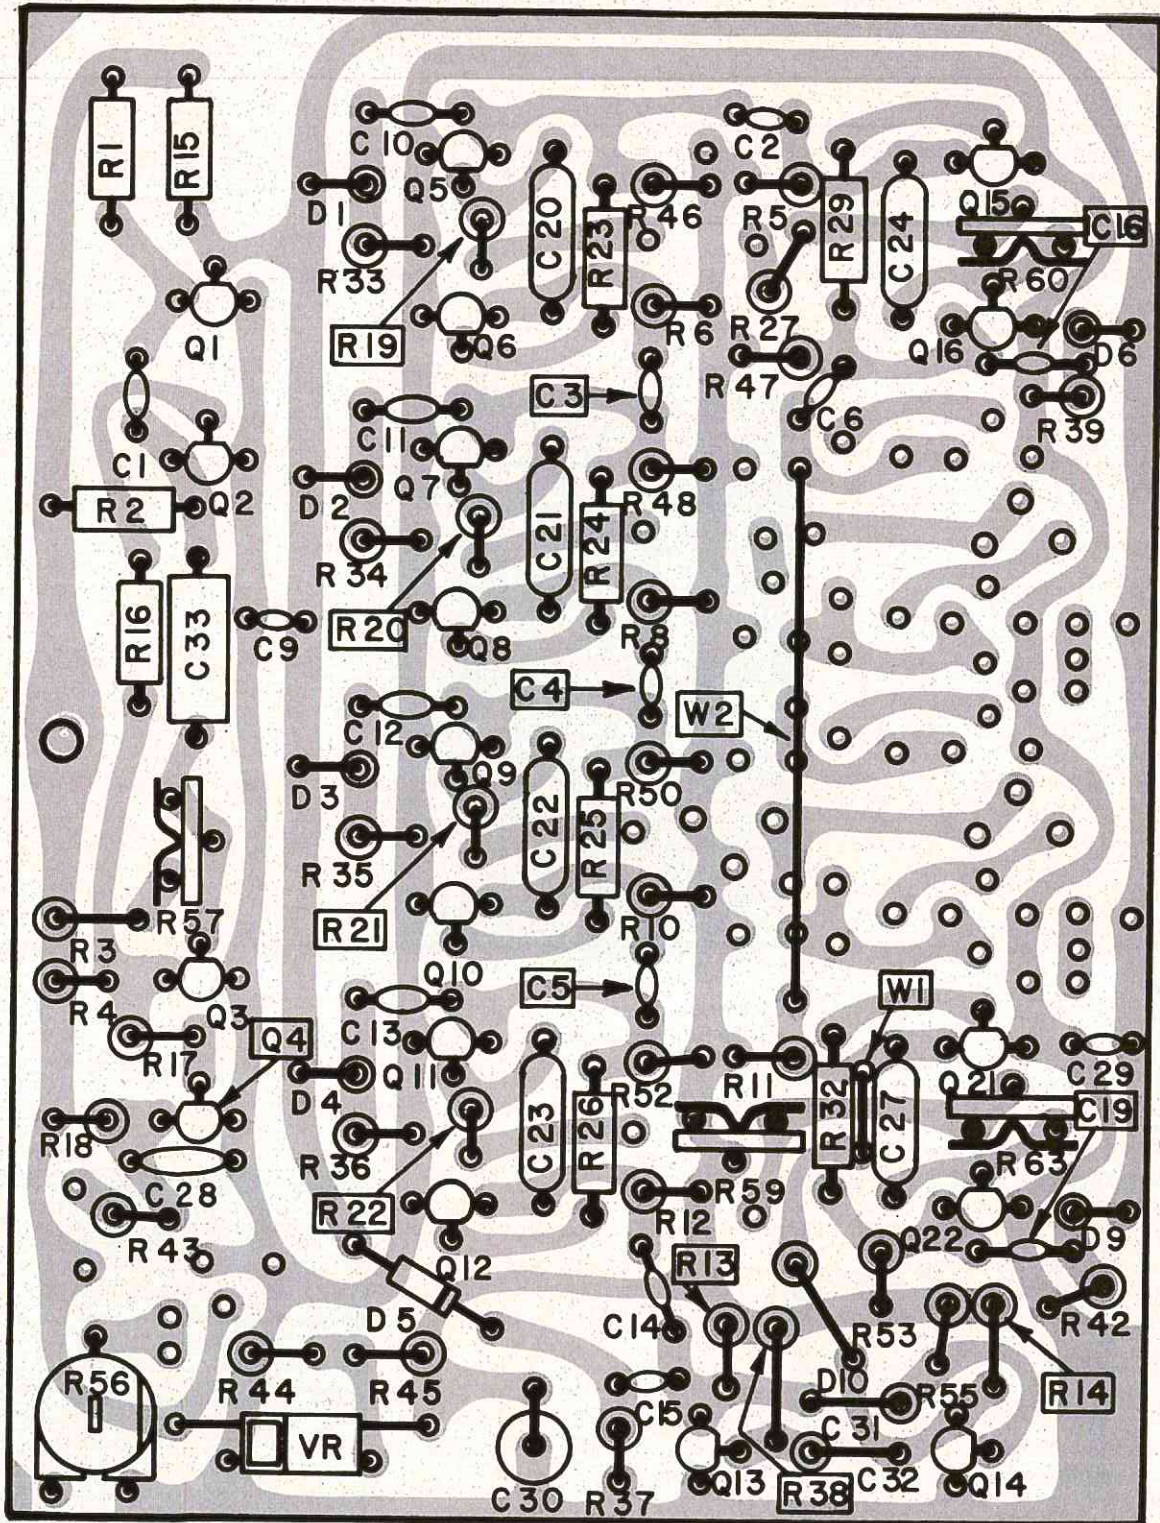

FIGURE T-1
Figure T-1 and Figure T-2 illustrate the location of each component as viewed from the component sides. Figure T-3 illustrates the position of the two terminals to be soldered to the foil side of the r.f. board. To identify the components three conventions have been used.
(1) When the component, as drawn, is large enough, its symbol is printed on the outline which represents it. See, for example, the two resistors R1 and R15 in the upper left corner of Figure T-1.
(2) When the identifying symbol of a component will not fit on its outline, the symbol is placed **below** the outline. See, for example, transistor Q1 near the upper left corner of Figure T-1.
(3) When the component cannot be identified by either of the first two conventions, its symbol is printed inside a rectangle. An arrow points from the rectangle to the outline of that component.
STEP 1. Find the symbol representing the component to be identified from Figure T-1 or Figure T-2; for example, R1 on Figure T-1.
Figure T-1 shows the location of the components on this board. Begin by installing resistor R1 in the left rear corner of the board. Next, install one of the components adjacent to R1. Continue adding components, one by one, working outward and away from those already installed. Use the installed components as guides to help locate the correct position of the next component.
No bending of the leads should be required. The holes have been located in the board to fit the leads properly. Position the trim pot as shown in Figure T-1 and insert the leads into the proper holes.
These transistors have a somewhat different mounting from the transistor mounting on the r.f. board. The difference consists in the positioning of the base lead. Bend the two outer leads slightly apart. Bend the center lead slightly towards the flat face. Insert the leads into the proper holes in the board and push the transistor down to within 1/8" of the board. The flat face must be positioned as shown in Figure T-1.
Make a smooth 90° bend in each lead to fit the holes in the board. Position the diode so that the black stripe has its proper orientation as shown in Figure T-1. Insert the leads into the holes and push the diode down against the board.
No bending of leads should be required. The holes have been located in the board to fit the leads properly. Position the voltage regulator as shown in Figure T-1. Insert the leads into the proper holes and push the regulator down against the board.